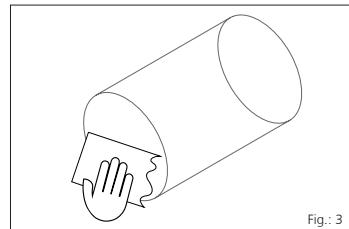

Fig.: 3
**1** Create an opening with Ø 99-103 mm (see Fig. 3). The entry can be made using a drill stand. Here, the wall thickness has to be continued into the soil for 60 mm so that a hollow cavity can be created in front of the building.
Clean core drill hole/wall sleeve (see Fig. 3).